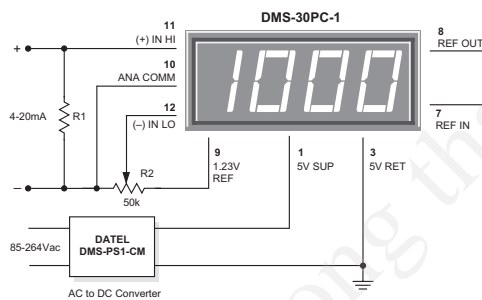

Figure 7. 4-to-20mA Current Loop Operation
5. Process Control (4-to-20mA) Measurements: In many common process-control applications, a 4-to-20mA current loop is used to transmit information. Because DMS-30PC meters have such high input impedance, a simple shunt resistor across the meter's input can be used to convert the loop current to a voltage. See Figure 7. The value of the shunt resistor is a function of the scaling requirements of the particular application and can be calculated using the following equation:
To calibrate the circuit of Figure 7, perform the following: